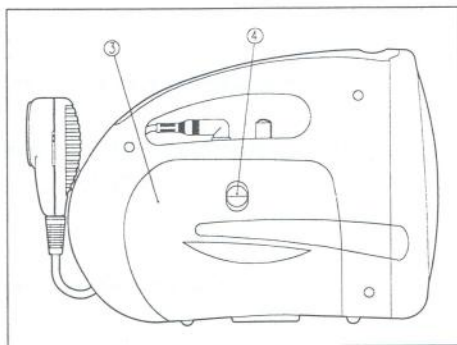
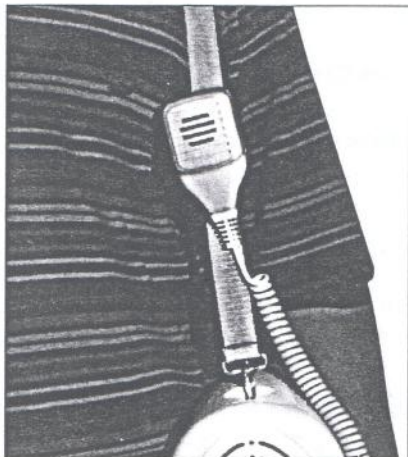

Fig.2
Fig.8
3.2.8 Put the CB mic back as shown on Fig.2 or Fig.8 while not using.